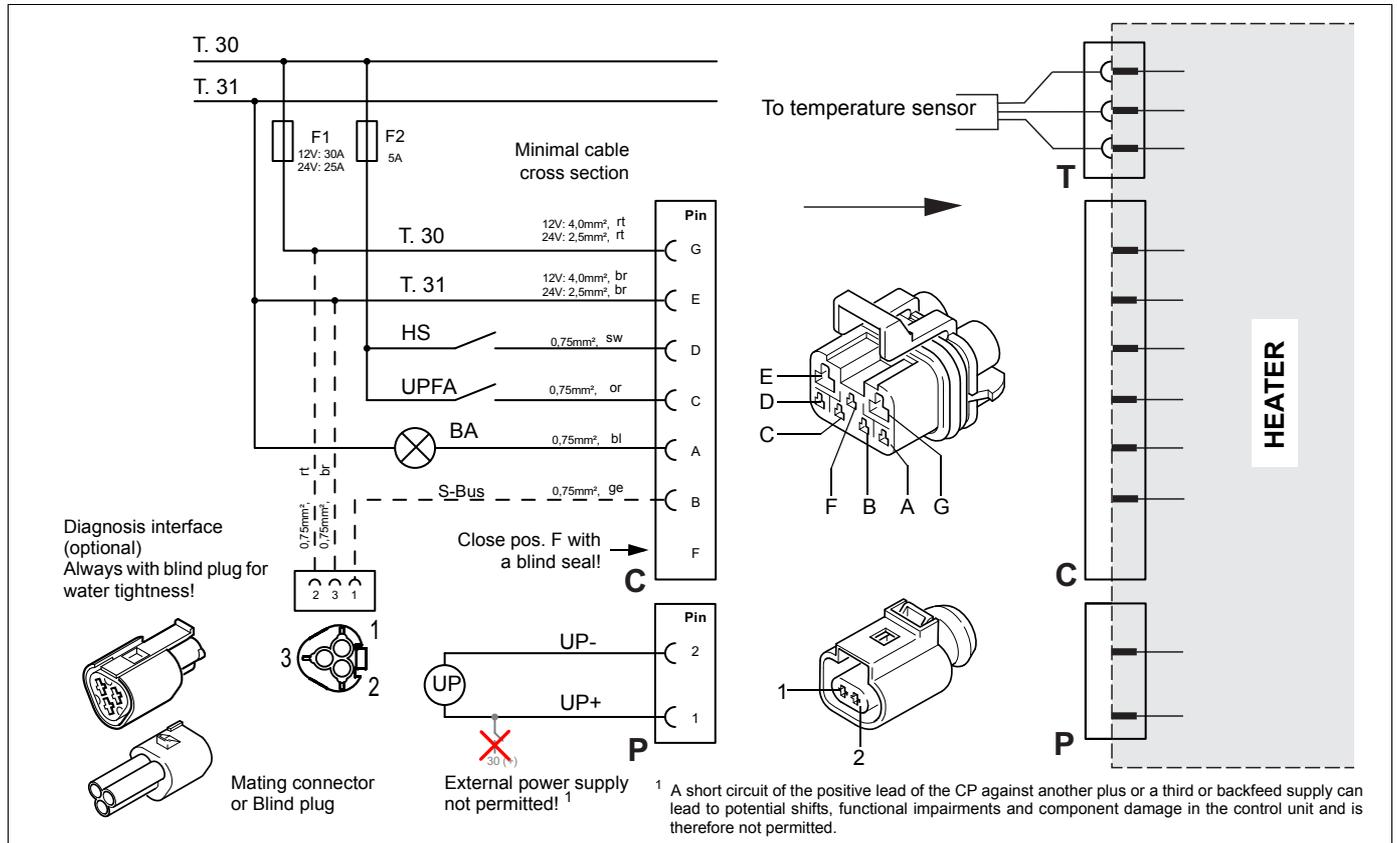

Fig. 9: Hook-up diagram for the heater Thermo E+ with switch, legend see page 47
The hook-up of the heater is to be performed acc. to the hook-up diagram shown in Figure 9. The interfaces are located outboard on the control unit.
- Circulating pump connection (see Figure 9)
For vehicle cable lengths up to 7.5 m, at least the prescribed cable cross-sections in Fig. 9 shall be used. For vehicle lengths of 7.5 m to 15 m, the cable cross-sections in the vehicle must be designed larger. At least the cable cross-sections given in the table must be used. Please note that the cable cross-section at the heater must not exceed 1 mm². In the case of larger cable lengths, a cross-section reduction must be carried out before the heater. The generally valid electrotechnical rules apply.
To connect the diagnosis, an additional adapter harness (11123550_) can be purchased. Alternatively, a connection can be realized by the customer as shown in Figure 9.
10.6. Hook-up diagram (see fig. 9)
To connect the Diagnosis Thermo Test or the blind plug (see Fig. 9):